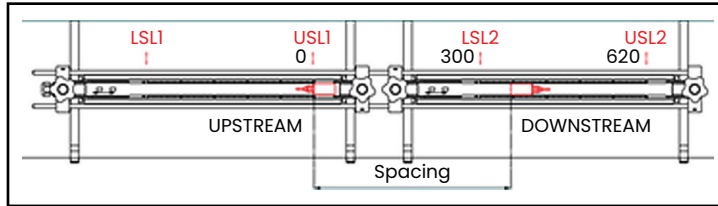
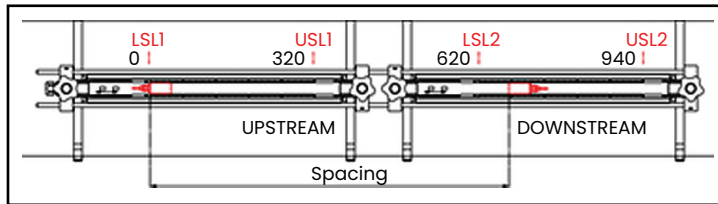

Figure 17: Transducer Spacing of 320 to 620 mm with Two Fixtures
Figure 18: Transducer Spacing of 620 to 940 mm with Two Fixtures
5. See Figure 17 and Figure 18 below for examples of a completed installation in the following situations: